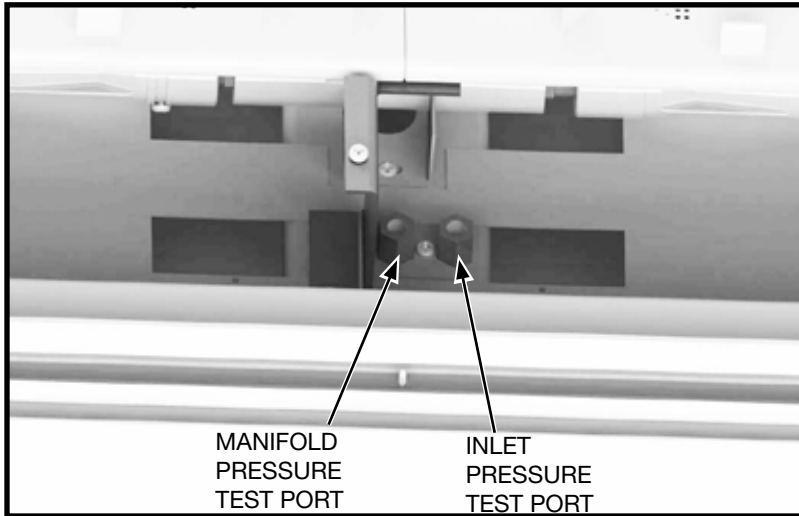

Figure 93: Pressure test ports.
2. Remove the plug from the pressure test port using a 3/16" hex key. The pressure test ports are located next to the center tray leg opposite from the pilot (Figure 93).